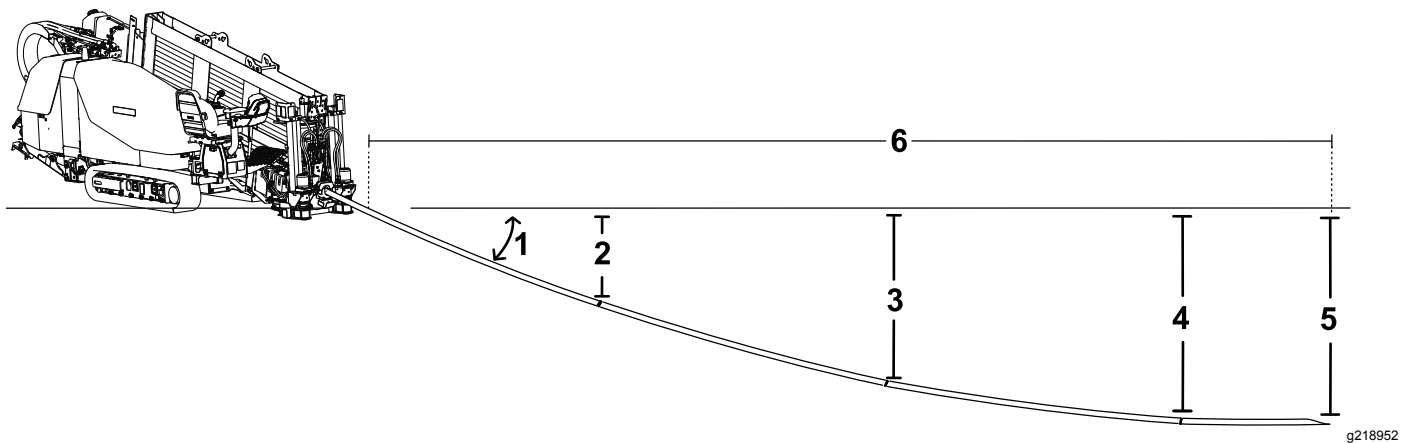

Figure 45
- You insert the first 3 m (10 ft) of drill bit/pipe into the ground with no steering. The end of the drill bit is 53 cm (21 inches) deep (Figure 45).